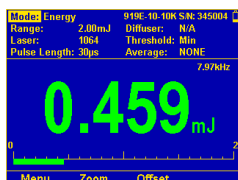
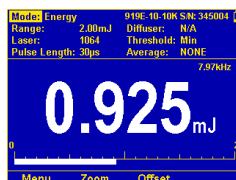
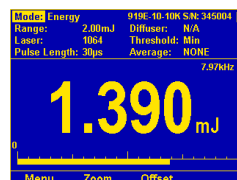
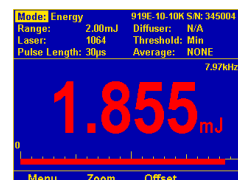

Figure 9-9 Bargraph Green < 30% Full Scale
Figure 9-10 Bargraph White 30% to 60%
Figure 9-11 Bargraph Yellow 60% to 90%
Figure 9-12 Bargraph Red > 90%
- Press the **Enter** key to save the setting. Figure 9-9, Figure 9-10, Figure 9-11, and Figure 9-12 below show sample colored bargraph power readings, indicating: